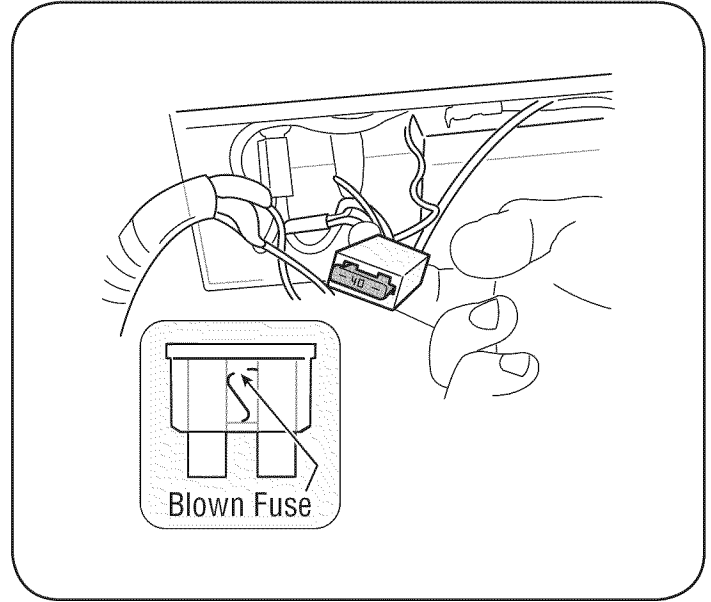

Figure 22
2. Remove fuse from socket and inspect as shown in Figure 22. If it is burned out, replace with standard automotive 40 ampere fuse.